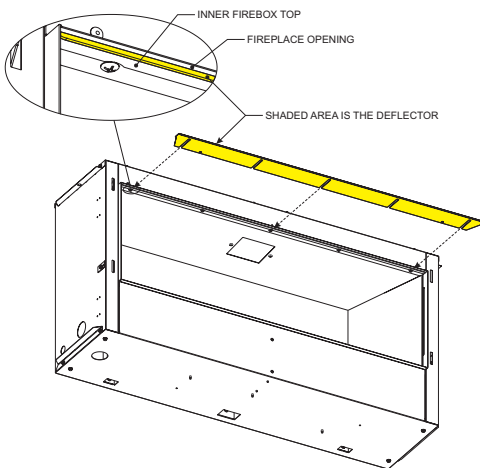

Figure 34
If installing an optional **Inner Top Deflector**, loosen the (5) Phillips head screws securing the inner firebox top. (See Figure 34) Do not remove screws completely. Slide into place with the inner top deflector slot angled downward. Slide the deflector between the inner firebox top and the fireplace opening, until the front of the deflector is flush with the wall. Tighten the (5) Phillips head screws to lock in place.